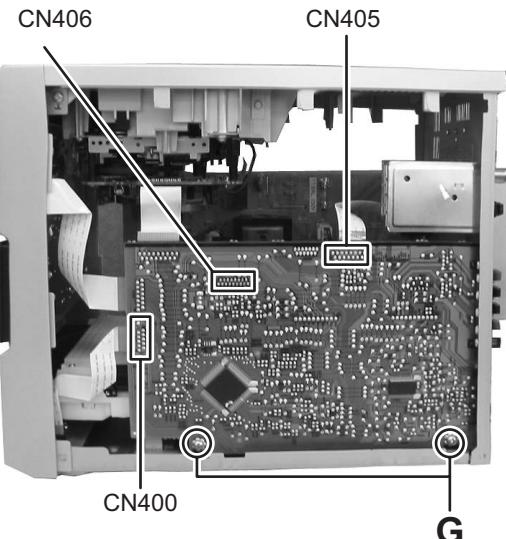

Fig.6
(See Fig.6, 7)
- (1) Disconnect the card wire of the tuner pack from connector CN405 of the micon board. (See Fig.6)
(See Fig.6 to 8)
- (2) Disconnect the card wires from connectors CN400, CN406 of the micon board. (See Fig.6)
- (4) Remove the tow screws **G** attaching the micon board. (See Fig.6)
- (6) Solder to short land part **j** of pickup. (See Fig.6)
- (7) Release the lock of connector **CN601** to direction of the arrow 2 and disengage the card wire. (See Fig.6)
- Solder to short land part **j** of the pickup then disconnect the card wire from connector **CN601** of the CD servo board. If disconnect the card wire before soldering, pickup is make sure destroyed by static electricity. (See Fig.6)